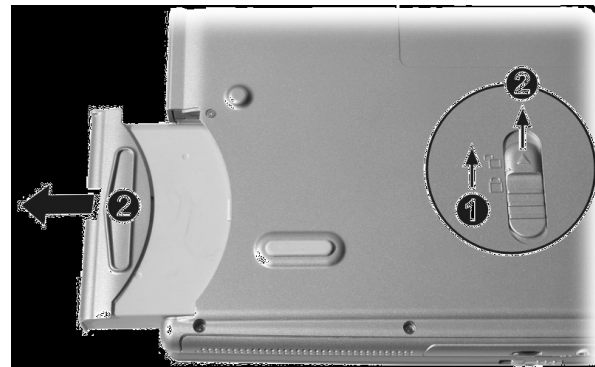

Figure 2-1 Remove the battery pack
2. Slide the release lever to the “unlock” (☐) position (❶), then slide and hold the release lever outwards and pull the battery pack out of the compartment (❷). (Figure 2-1)